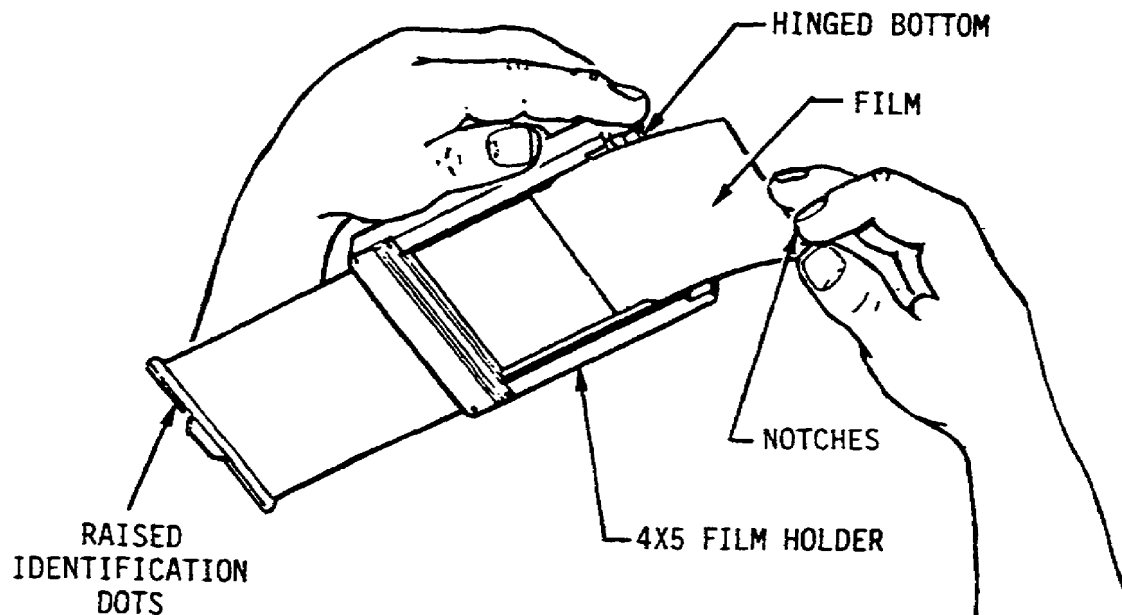

Figure 1-31. Loading Cut Film Holder.
- (1) Withdraw the dark slide from the cut-film holder.
- (2) Swing the bottom flap out to open the bottom of the cut-film holder.
- (3) Grasp a sheet of cut-film by the edges so that the emulsion (dull) side is up and the identification notches are in the upper right hand corner (fig 1-31).